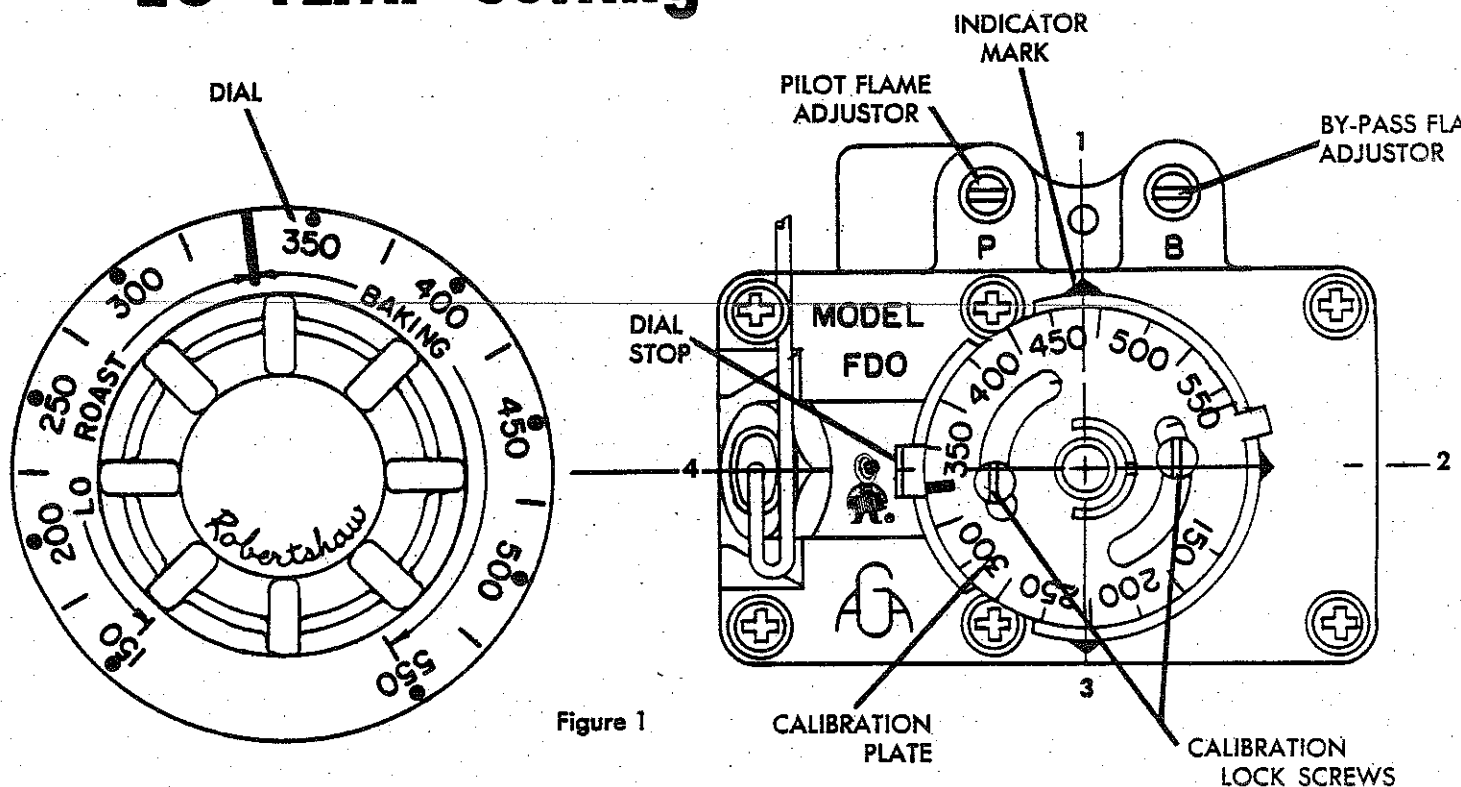

Figure 1
2. With a screwdriver turn "pilot flame adjustor" screw (figure 1) counterclockwise to increase the flame, clockwise decrease it until the flame is approximately  $\frac{3}{4}$ " high.
**BY-PASS (MINIMUM BURNER FLAME)** (Refer to figure 1)